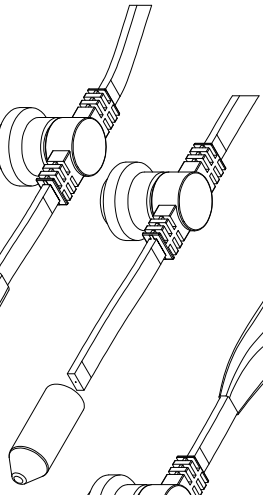

Fig. 3a
- 3) Place heatshrink over cables. (Fig. 3a, Fig. 4a) (Note festoon cable does not require small heatshrink)
Driver to Tail (Fig. 3a)
- 6) Connect Dimmer wires to white/ / blue wires via solder sleeves. (Fig. 3a)